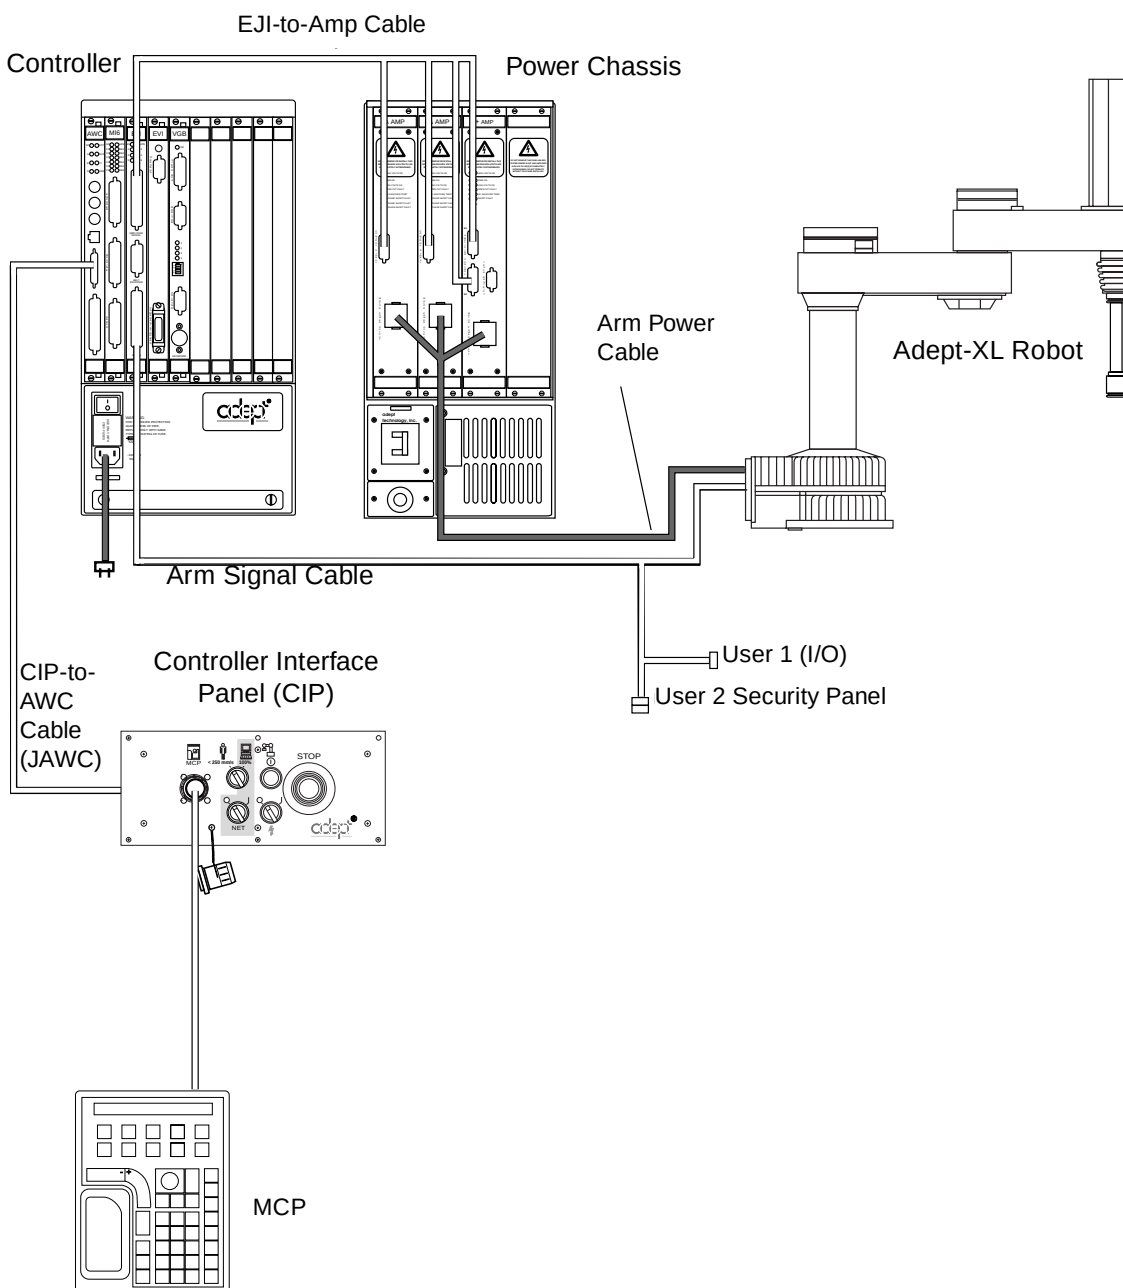
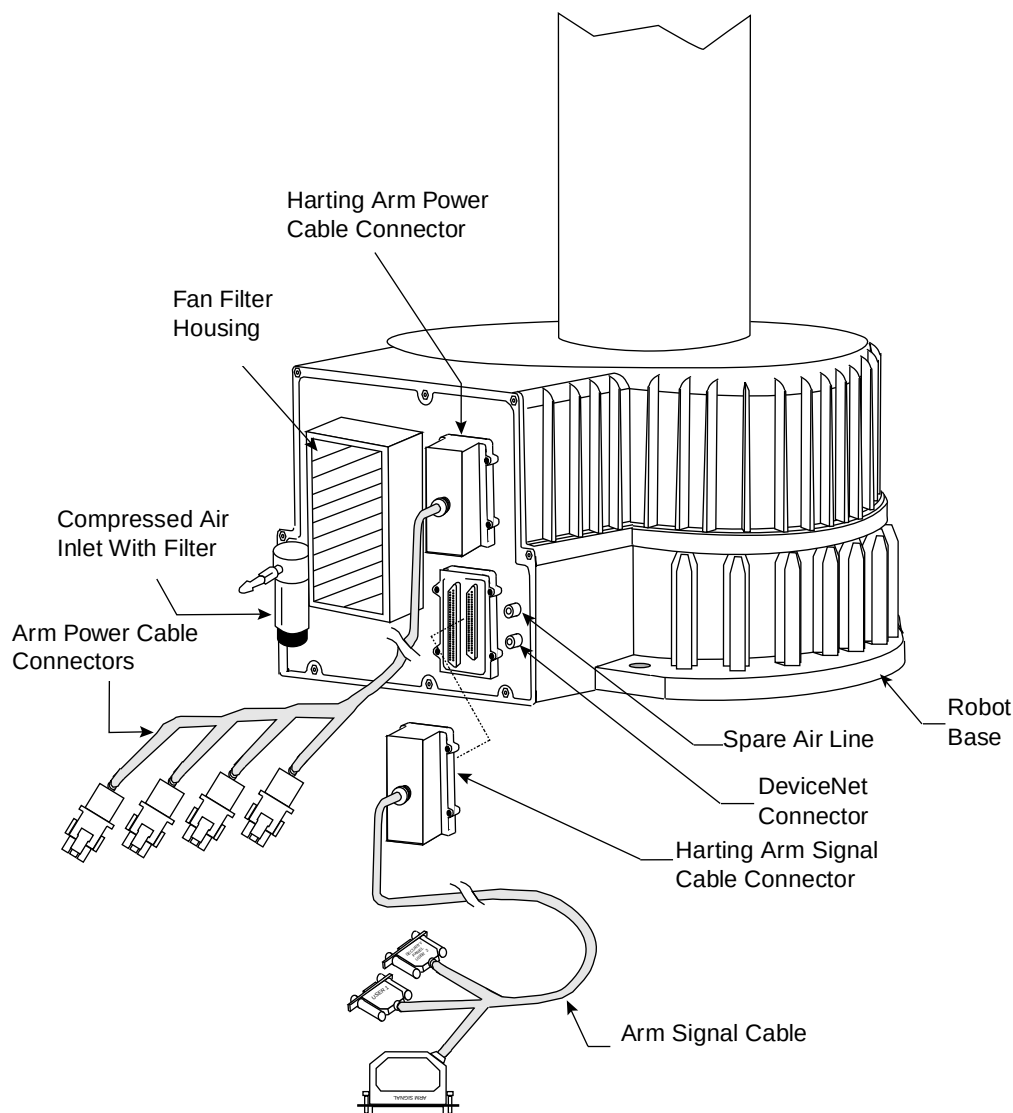

Figure 4-13. Cable Installation (Without MMSP Option)
Figure 4-14. Adept-XL Robot Connector Locations
This section covers the installation of all required power and signal cables for the robot and controller. If you have the MMSP option, there are additional cables that must be installed. For MMSP equipped systems, complete the installation steps in this chapter up to section 4.10 on page 92, then move to Chapter 5 for details on installing the MMSP option and completing cable installation. Figure 4-13 shows the cabling between the robot and the control system. Table 4-1 lists the lengths of all cables.
The cable between the robot and power chassis is called the Arm Power cable. The robot end of the cable has a large rectangular Harting connector with four slotted screws. The opposite end of the cable has three separate square 9-pin connectors that go to the power chassis (see Figure 4-14 on page 84). The fourth connector is not used.
1. Connect the Harting connector of the Arm Power cable to the Arm Power interface on the back plate of the robot. Verify that an O-ring gasket is in place to seal the Harting connector to the electrical bulkhead. Tighten the four captive screws securely. Make sure that there is at least 254 mm (10 in.) behind the electrical bulkhead for cable clearance. See Figure 4-14 on page 84.
2. Connect the other end of the Arm Power cable to the matching connectors on the A and B+ Amplifier boards (see Figure 4-13 on page 82):
The cable between the robot and the EJI board in the Adept MV controller is called the Arm Signal cable. The robot end has a large rectangular Harting style connector. The controller end has a 50-pin D-sub connector and two smaller 15-pin D-sub connectors. See Figure 4-13 on page 82 and Figure 4-14 on page 84.